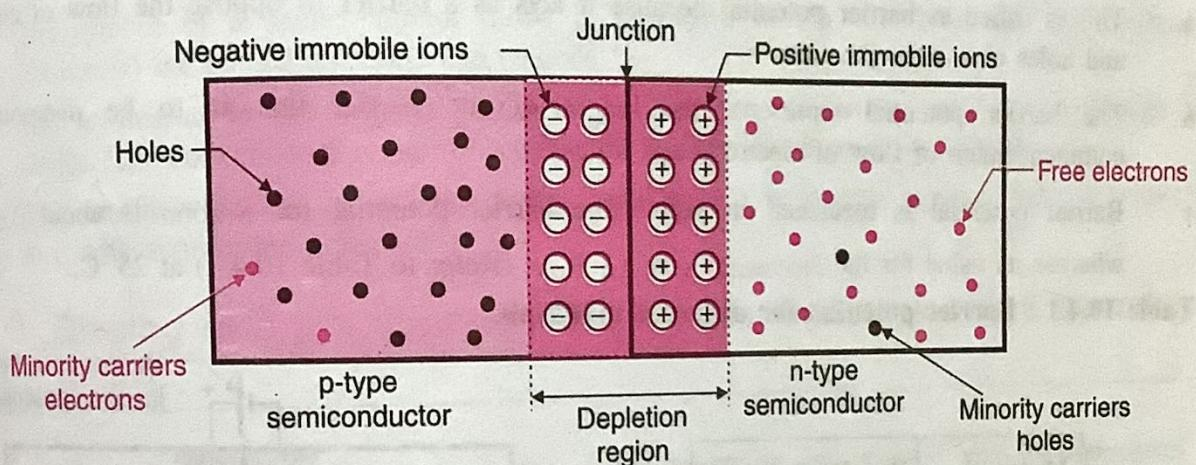

Fig. 10.4.4 : p-n junction with the depletion region
- Due to this recombination process, a large number of positive ions accumulate near the junction on the n-side and a large number of negative immobile ions will accumulate on the p-side near the junction as shown in Fig. 10.4.4.
- At this point, the junction is said to have attained an equilibrium. The p-n junction in the state of equilibrium is shown in Fig. 10.4.4.
- The shaded region on both sides of junction in Fig. 10.4.4 contains only immobile ions and no free charge carriers such as electrons or holes. In other words this region is "depleted" of the free charge carriers.